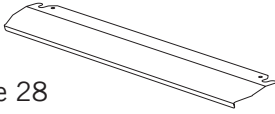

Figure 28
1. A safety panel is designed to protect control panel and the buttons when the oven is in grill mode. (Figure 28)